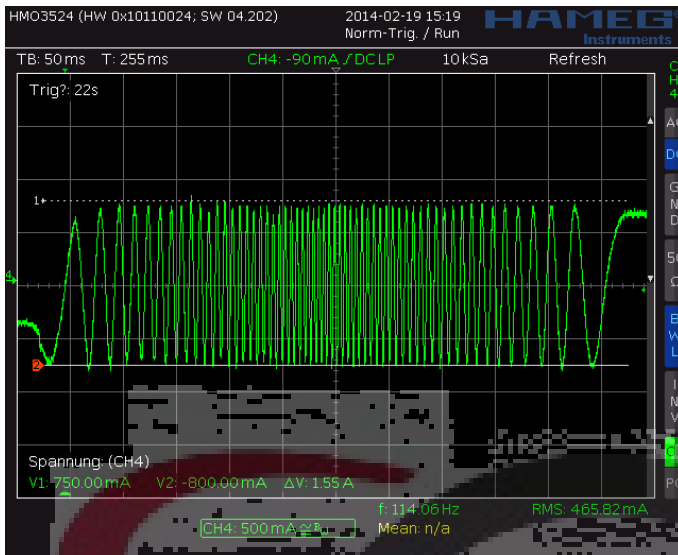
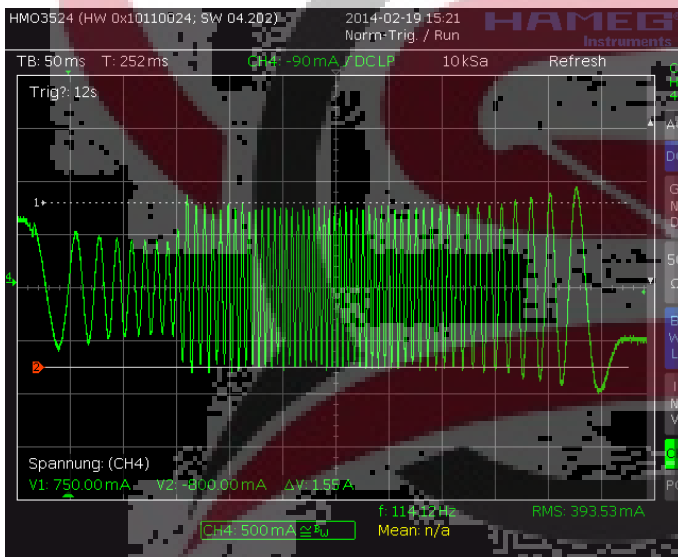
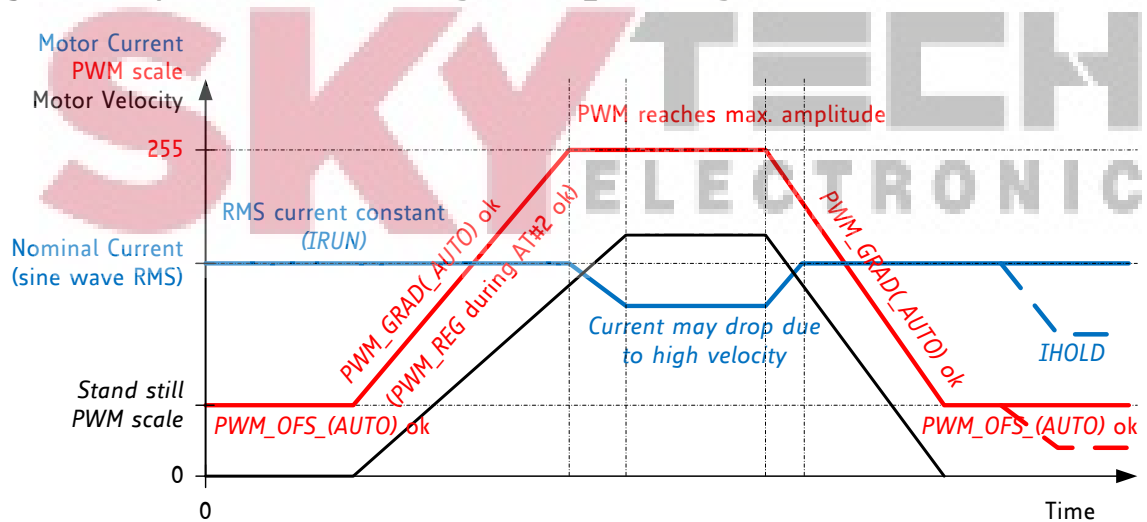

Figure 6.3 Scope shot: good setting for PWM_REG
Figure 6.4 Scope shot: too small setting for PWM_REG during AT#2
Figure 6.5 Successfully determined PWM_GRAD(AUTO) and PWM_OFs(AUTO)
In StealthChop voltage PWM mode, the autoscaling function ($pwm_autoscale = 1$, $pwm_autograd = 1$) regulates the motor current to the desired current setting. Automatic scaling is used as part of the automatic tuning process (AT), and for subsequent tracking of changes within the motor parameters. The driver measures the motor current during the chopper on time and uses a proportional regulator to regulate PWM_SCALE_AUTO in order match the motor current to the target current. PWM_REG is the proportionality coefficient for this regulator. Basically, the proportionality coefficient should be as small as possible in order to get a stable and soft regulation behavior, but it must be large enough to allow the driver to quickly react to changes caused by variation of the motor target current (e.g. change of VREF). During initial tuning step AT#2, PWM_REG also compensates for the change of motor velocity. Therefore, a high acceleration during AT#2 will require a higher setting of PWM_REG . With careful selection of homing velocity and acceleration, a minimum setting of the regulation gradient often is sufficient ($PWM_REG=1$). PWM_REG setting should be optimized for the fastest required acceleration and deceleration ramp (compare Figure 6.3 and Figure 6.4). The quality of the setting PWM_REG in phase AT#2 and the finished automatic tuning procedure (or non-automatic settings for PWM_OFS and PWM_GRAD) can be examined when monitoring motor current during an acceleration phase Figure 6.5.